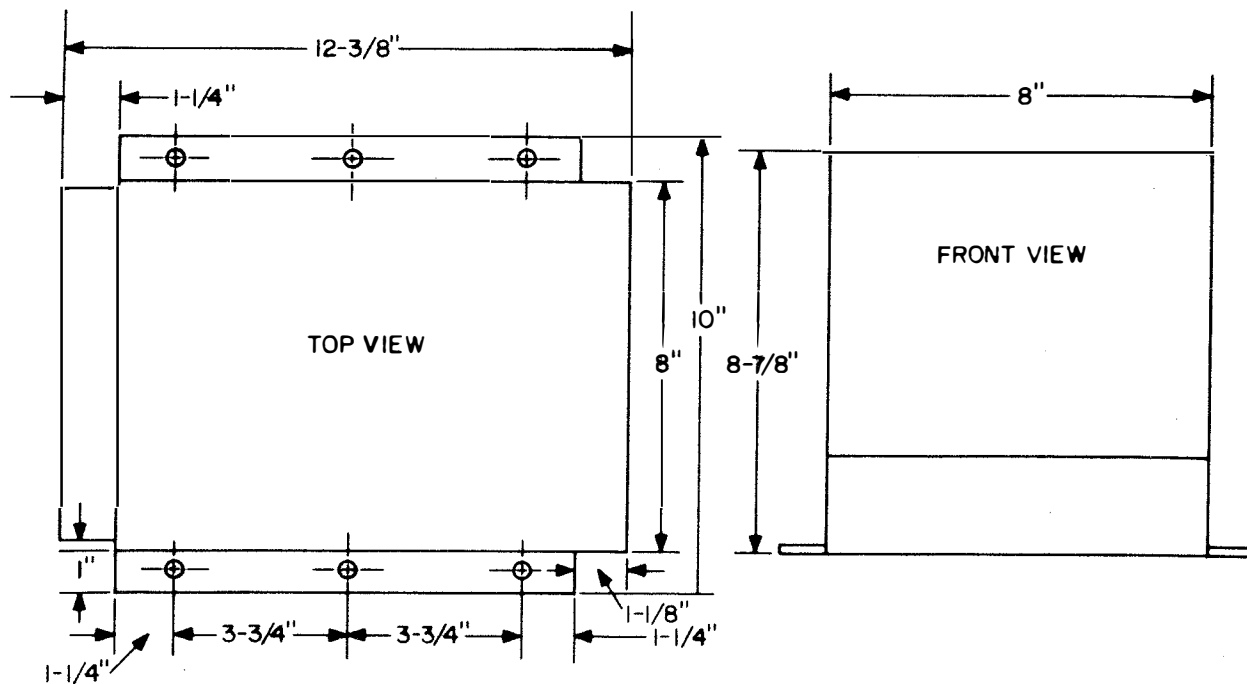
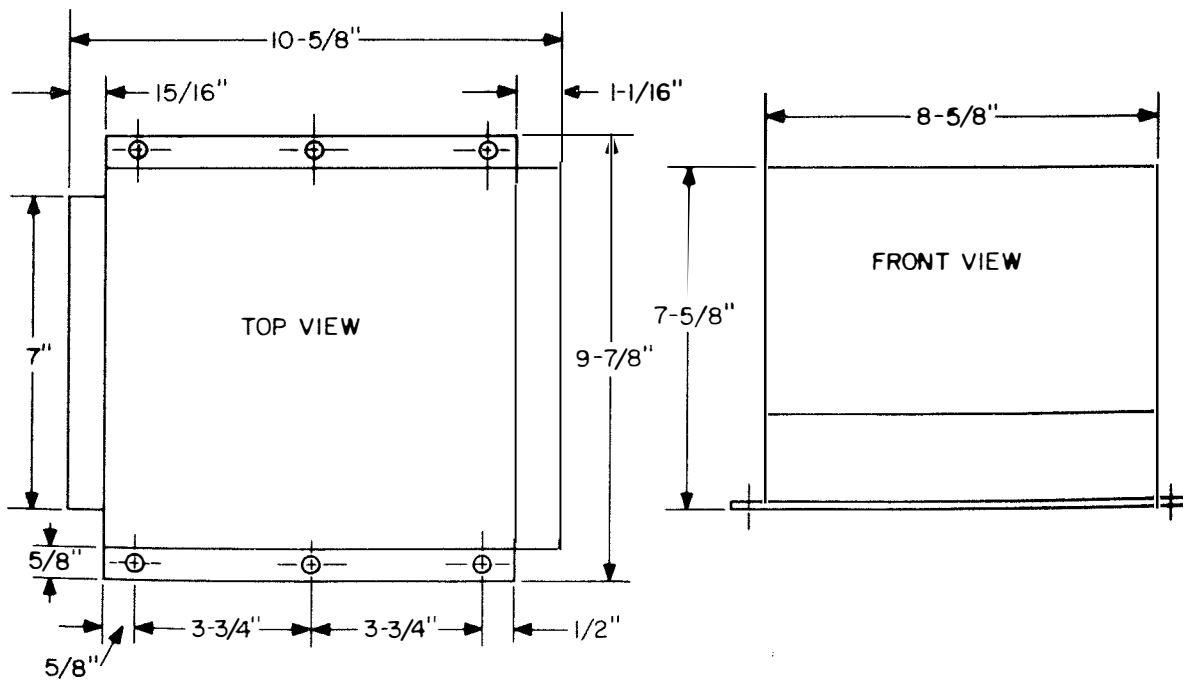

Figure 1. PP-3495B/UG Power Supply.
Figure 2. PP-3495C/UG Power Supply.
3. Although the two power supplies are electrically compatible, a physical difference exists. Power supply PP-3495B (Figure 1) is physically larger in its overall dimension and has a different mounting configuration than power supply PP-3495C (Figure 2).